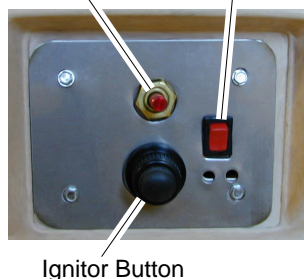

Figure 7 - Shutoff Switch, Ignitor Button, and Gas Control Valve Button
6. Push in and hold control valve button (see Figure 7).